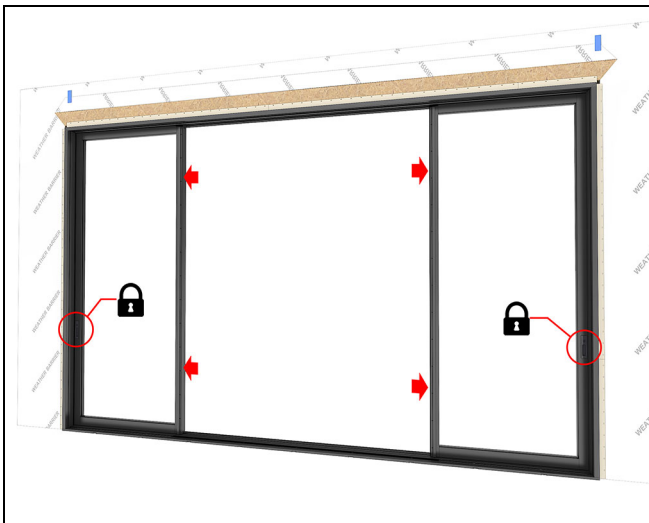

Figure 162
5. Close and lock the panels. See Figure 162.